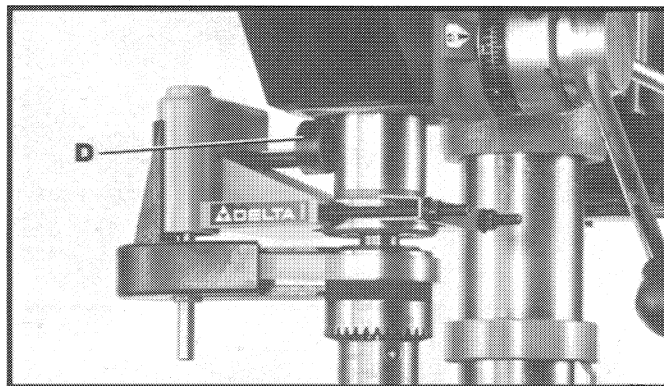

Fig. 18
16. Raise the spindle until the cam (D) Fig. 18, contacts the bottom of the drill press head casting. When the drill press is turned on, the cam (D) will rotate and the complete attachment will move up and down 3/4 inch.